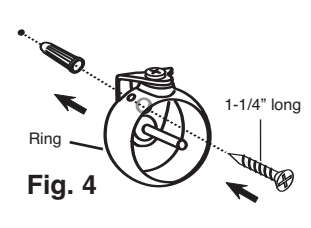

Fig. 4
4. Mark and drill mounting holes using ring as template. Use 1/8" drill bit for wood surfaces and 3/16" drill bit for hollow wall (anchor) applications. Install the bracket per figure 4, anchors not required for wood surfaces.